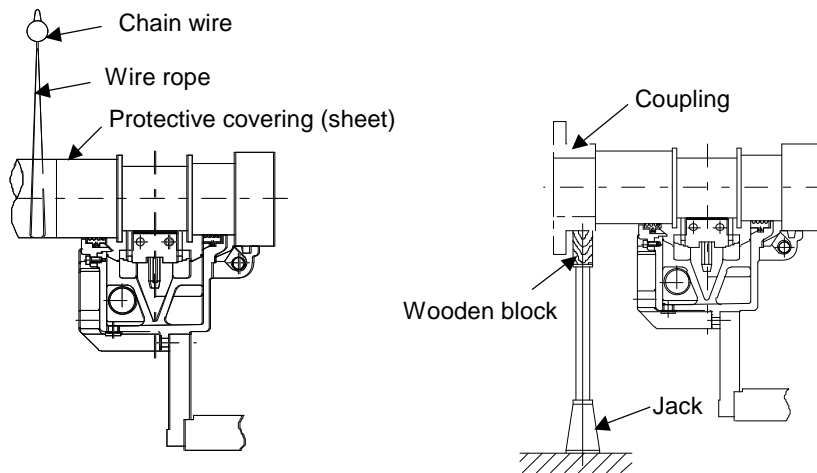

Figure 17 Example of How to Lift Up the Rotor 1, 2
10.4.2.6 Disassembling the Lower Section of the Bearing (See Figure 17 and 18)